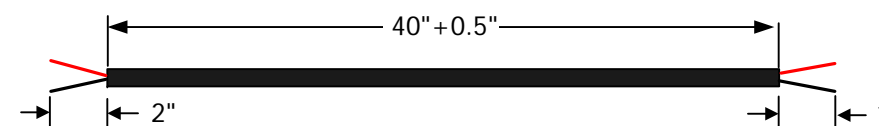

FIGURE 1
1. CUT AND STRIP CABLE [W1] APPROXIMATELY TO THE LENGTH SHOWN IN FIGURE 1.